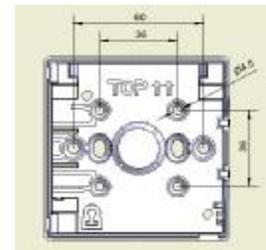

Figure 4
2. Determine the inlet opening(s) in the housing (see figure 4).